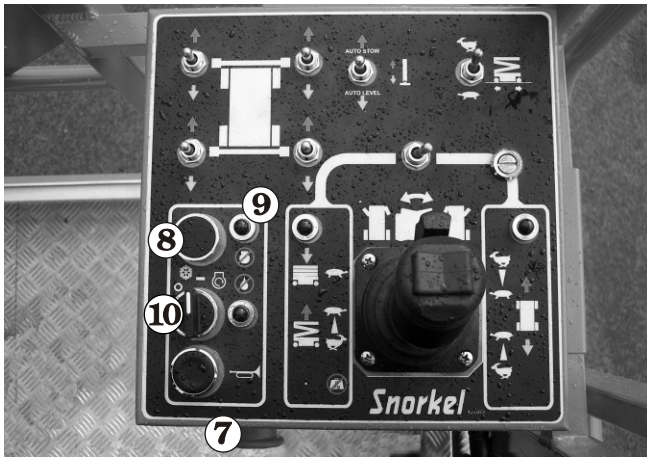

Figure 8.17
6. Turn the **Emergency Stop** switch **7** clockwise and it will pop out (on) (see Figure 8.17).
7. If the engine is at ambient temperature, momentarily press the GLOW-PLUG switch **8**. This action will automatically turn the glow-plugs, in the engine, on for 10 seconds. A light **9** will automatically come on to indicate that the glow-plugs are on (see Figure 8.17).
8. When the light **9** goes out, press and hold the START switch **10** until the engine starts or for 20 seconds, whichever comes first. When the engine starts, release the START switch **10** (see Figure 8.17).